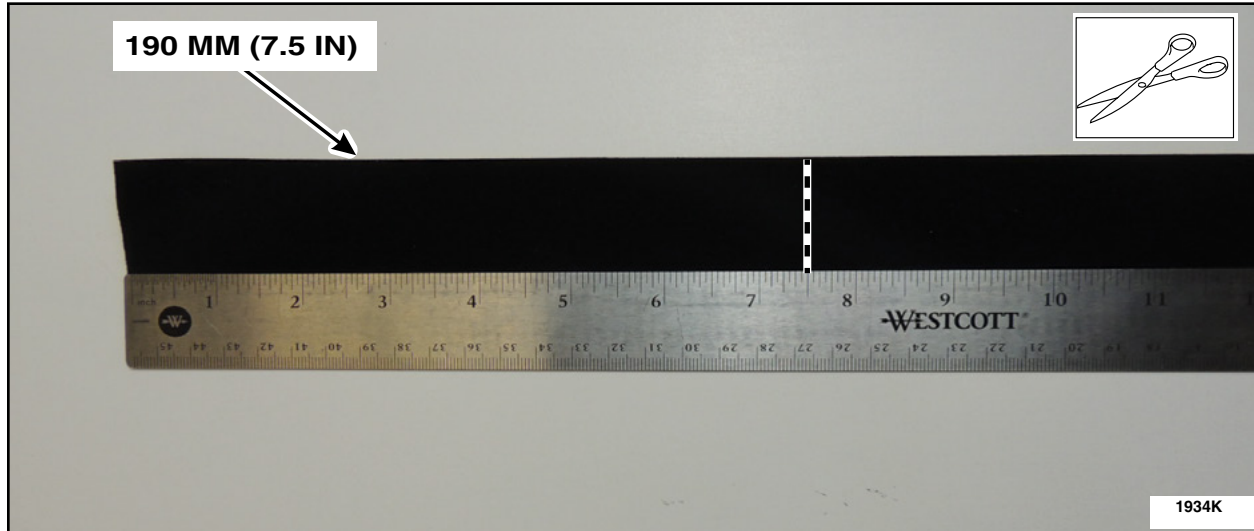

FIGURE 2
3. Measure and cut one piece of flocked tape 190 mm (7.5 in) in length. See Figure 2.